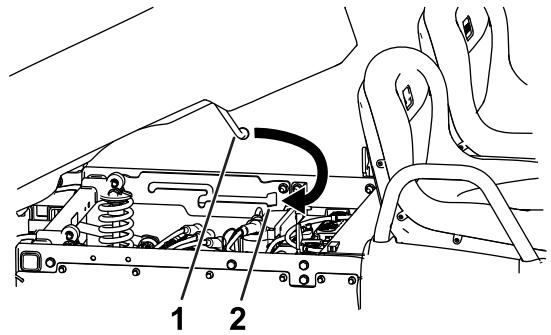

Figure 5
5. Swing the prop rod forward and insert the short leg of the rod through the key hole (Figure 5).
4. Adjust the height and position of the lifting equipment so that the short leg of the prop rod is aligned with the key hole at the end of the prop-rod slot in the left-frame channel or prop-rod bracket (Figure 5).